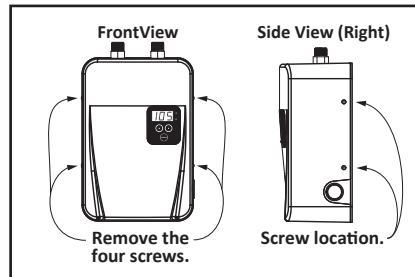

Figure 5 - Removing the front cover.
1. Remove the front cover on the point-of-use unit by removing the two screws from the left and two from the right of the cover. With the screws removed, gently pull the cover away from the unit and place the cover out of the way. See Figure 5.